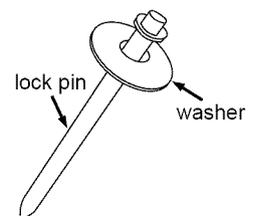

Figure 31
6. Slide washer onto lock pin and place inside upper cabinet for future use as directed on the next page. See Figure 31.